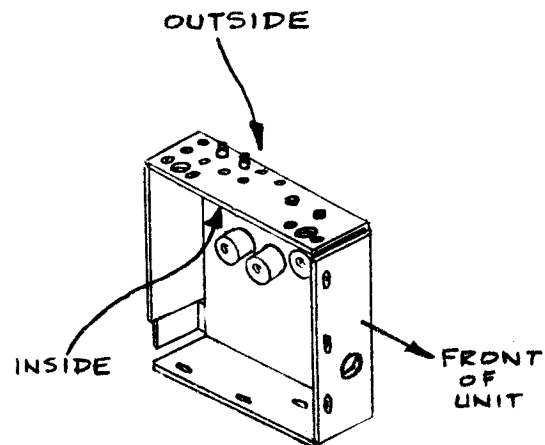

FIGURE 6
14. Mount the insulated feedthru assemblies onto the sideplate. Be sure to mount the feedthru assemblies in the same holes the corresponding capacitor was in. This can be determined by checking the wire colors against Figure 6.
15. Solder the wires going to the top of the sideplate to the feedthrus. (Use Figure 6 again for correct connections).